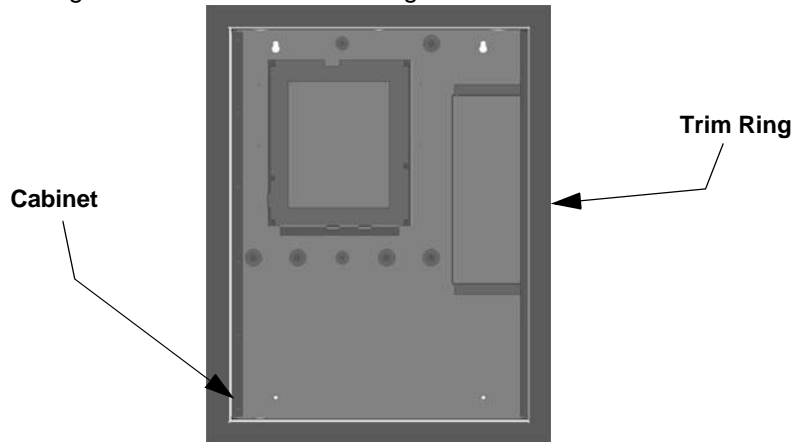

Figure 3-10 Trim Ring Around cabinet
- Place the trim ring around the cabinet. See Figure 3-10.